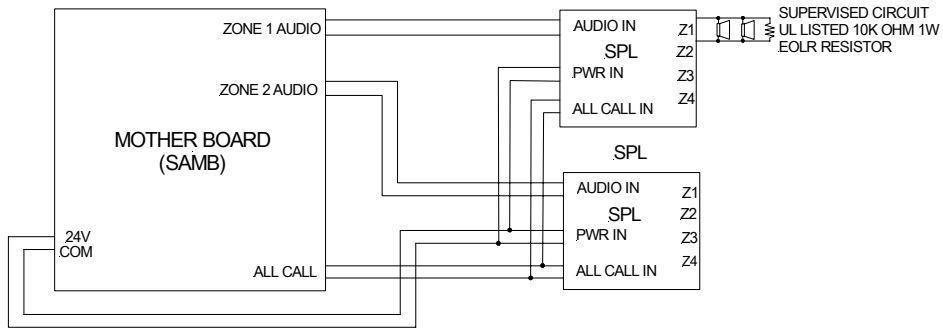

Figure 4:
1. See Figure 4 for wiring diagram.